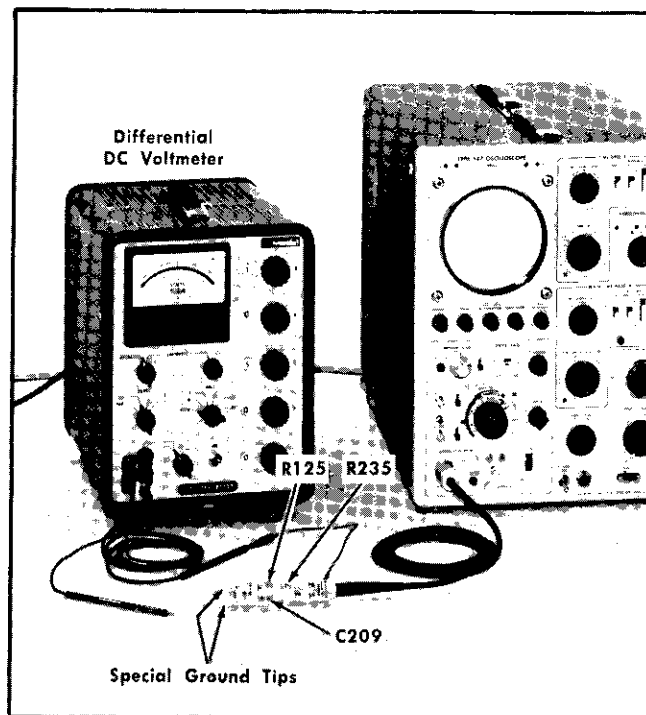

Fig. 6-4. Equipment setup for steps 1 and 2.
1. Adjust DRAIN VOLTS (R125) ①
a. Equipment setup, adjustment location and test point are shown in Fig. 6-4.
b. Attach the special ground tips (item 20) to the P6046 Probe + and - Input tips.
c. CHECK—Drain Voltage. Using the Differential Voltmeter (item 8), check for 10.5 V DC ± 0.25 V at the C209 adjusting screw with respect to the Probe ground lug. (See Fig. 6-4).
d. Adjust—DRAIN VOLTS (R125, Fig. 6-4) for 10.5 V DC at the C209 adjusting screw.
2. Adjust GAIN SWITCHING BAL (R235) ①
a. The preliminary control settings apply. Locations of adjustments are shown in Fig. 6-4.
- h. ADJUST—GAIN SWITCHING BAL (R235, Fig. 6-4) to position the trace to graticule center. A slight amount of drift around the adjusted position may be present at 1 mV sensitivity.)